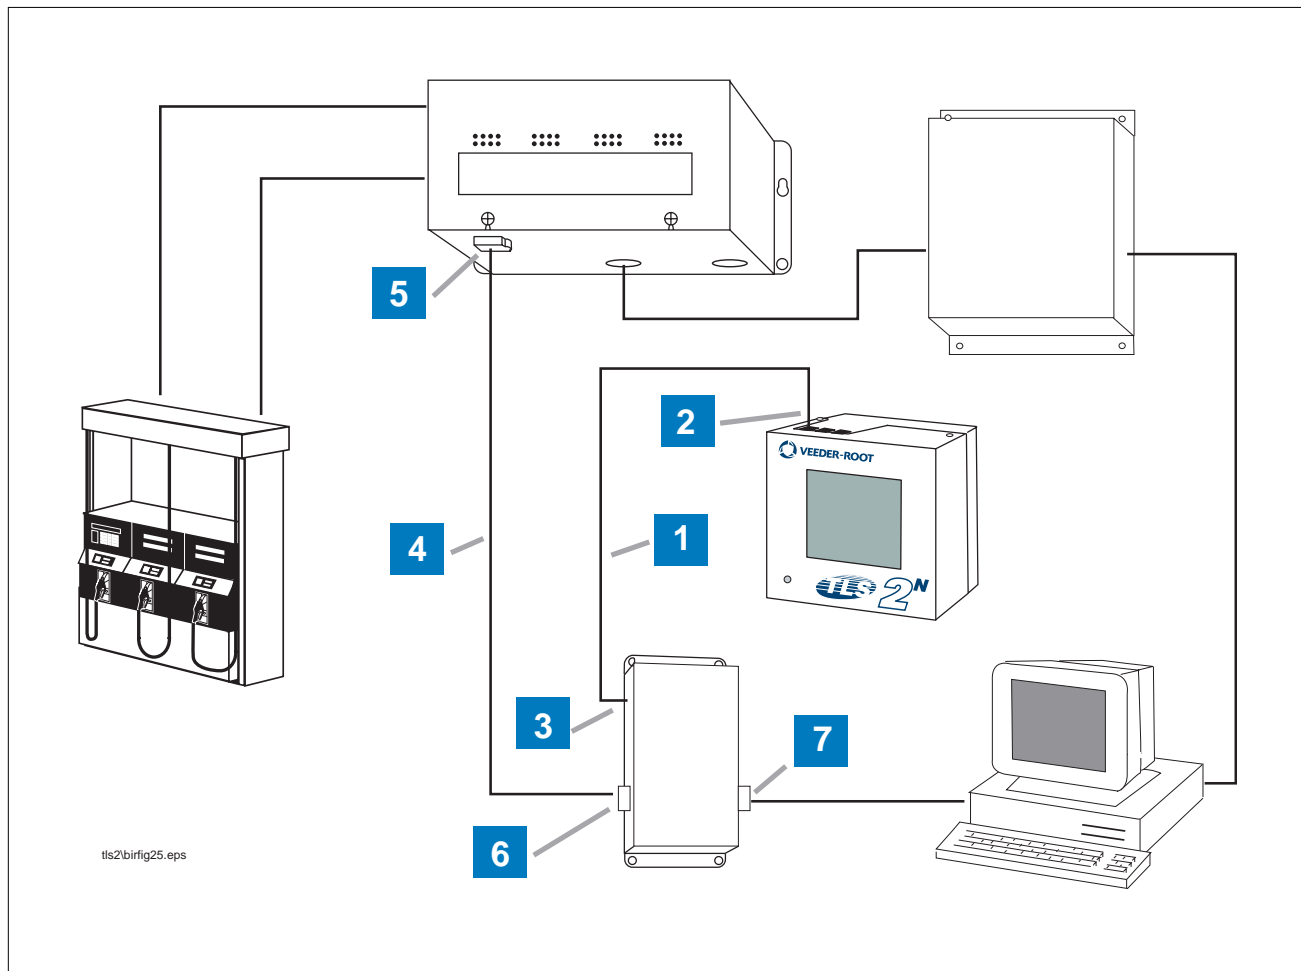

Figure 16. Storemaster POS Installation
2. Connect cabling between the TLS-2N, CAB and POS as shown in Figure 16 on page 22.